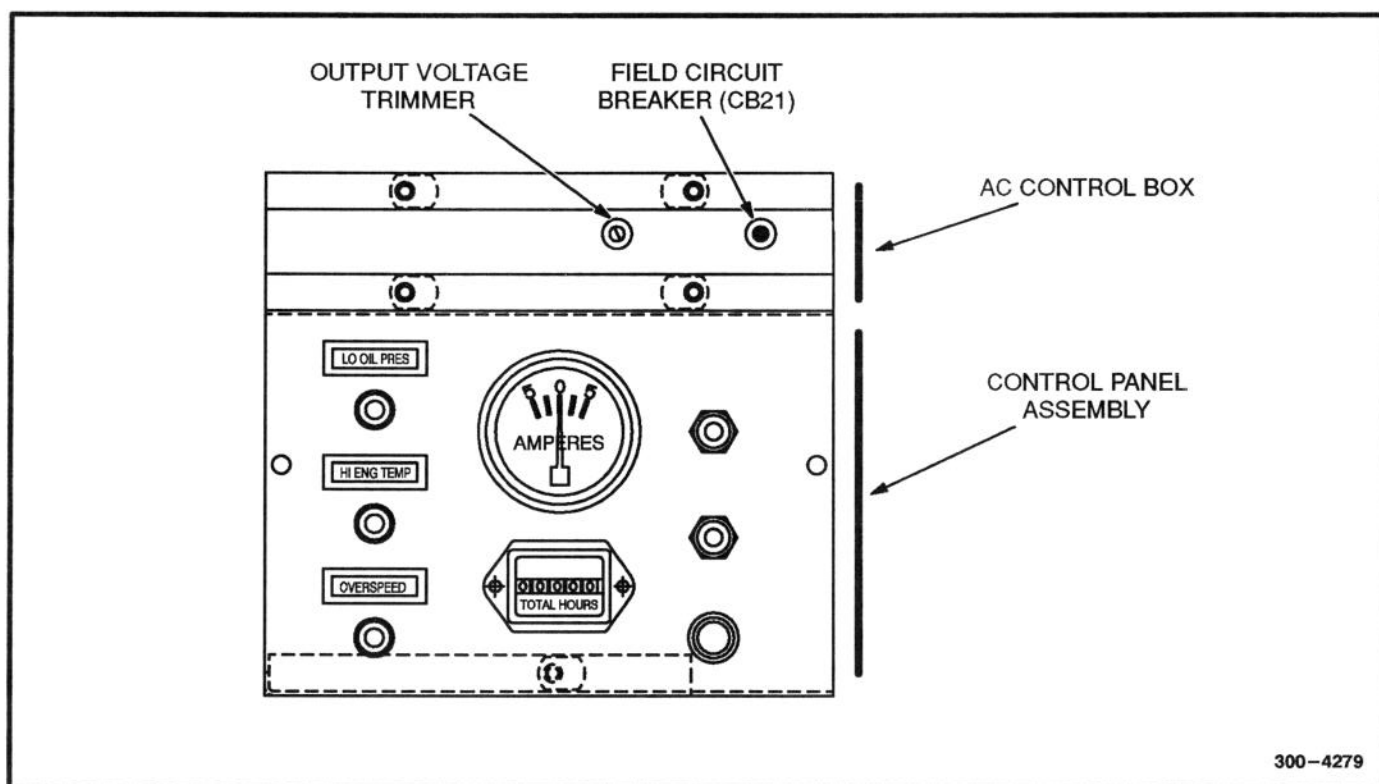
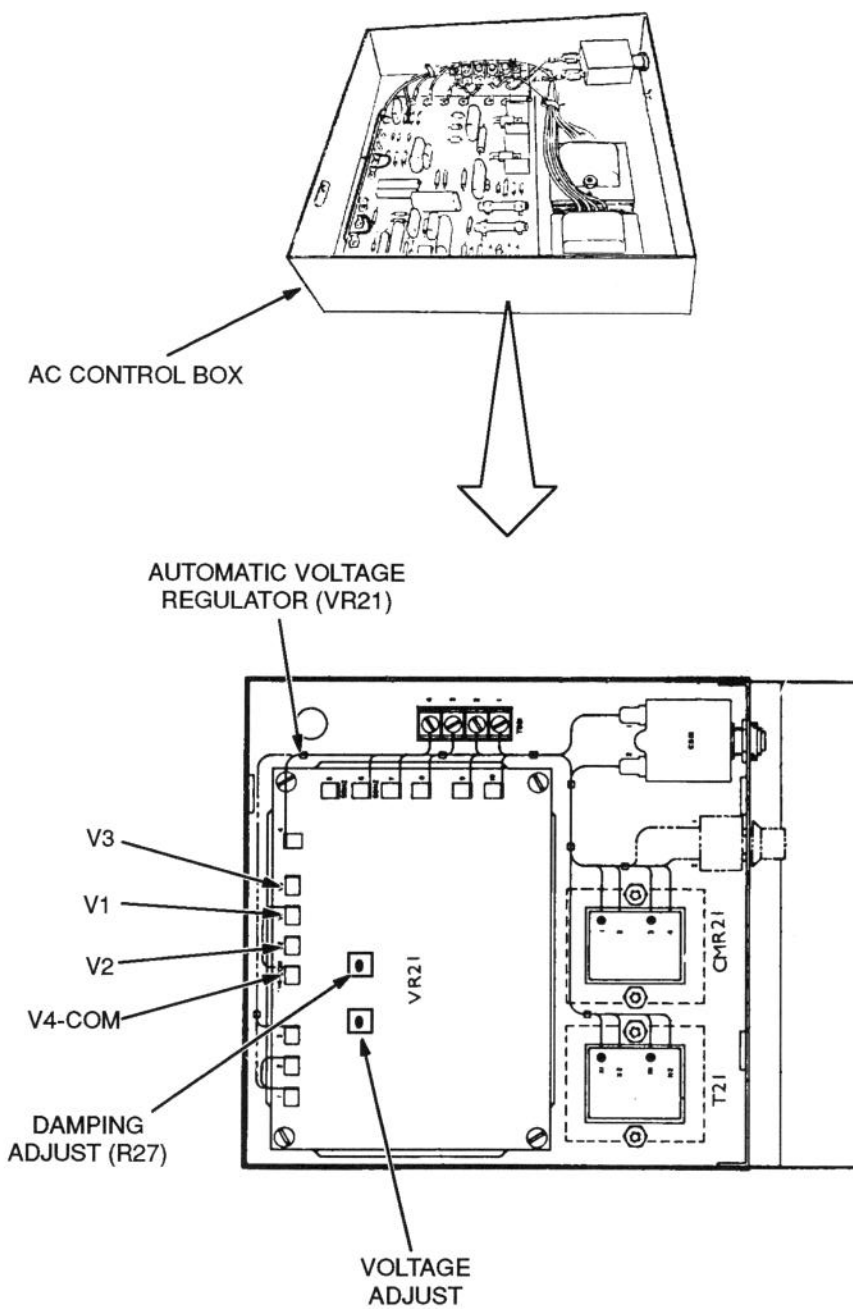

FIGURE 2-1. AC CONTROLS
FIGURE 2-3. AVR-A VOLTAGE REGULATOR
This section describes the AC control components of the genset. The AC control box, which contains the AC controls and components, is mounted on top of the control panel assembly (Figure 2-1).
The voltage regulator controls the output of the generator so that a constant voltage is maintained under varying load conditions. There are two types of automatic voltage regulators used on these sets, which are shown in Figures 2-3 and 2-4. For reference purposes only, they are identified as **AVR-A** and **AVR-B**.
The automatic voltage regulator is mounted inside of the AC control box. It can be adjusted by means of the potentiometer (pot) shown in Figure 2-3 and 2-4. Figures 2-5 and 2-6 show typical voltage regulating circuits.
Use the control panel mounted output voltage trimmer (see Figure 2-1), if provided, for small voltage adjustments. Measure generator output voltage while the set is running without load at the nominal frequency. If the trimmer does not provide enough adjustment, set it at its midpoint. Then turn the **VOLTS ADJUST** pot (Figure 2-3 or 2-4) until rated voltage is obtained. Turn clockwise to increase output voltage; counterclockwise to decrease output voltage.
1. With generator set running at no load, turn potentiometer **R27** (Figure 2-3) to a position where voltage tends to be unstable or hunt.